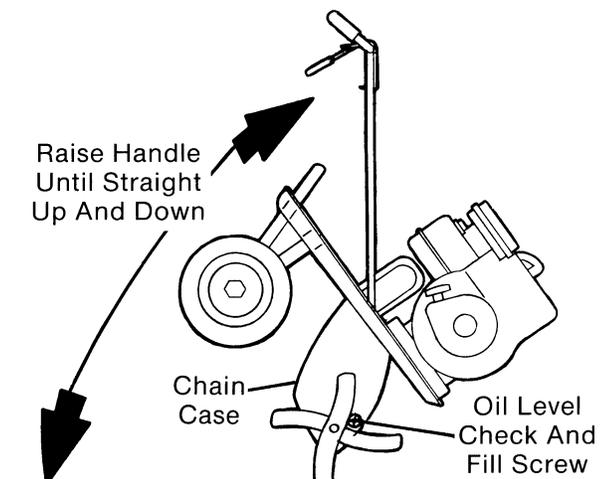

FIG. 9
4. CHAIN CASE - To check oil level of tiller chain case raise handle until it is approximately straight up and down. Wipe dirt from around oil fill screw and remove, (Fig. 9).